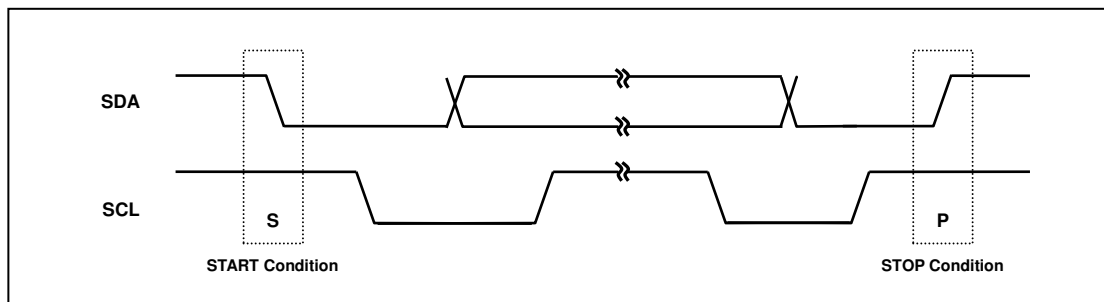

Figure 15.6. START and STOP Condition
Within the procedure of the I2C-bus, unique situations arise which are defined as START(S) and STOP(P) conditions (see Figure 15.6.).